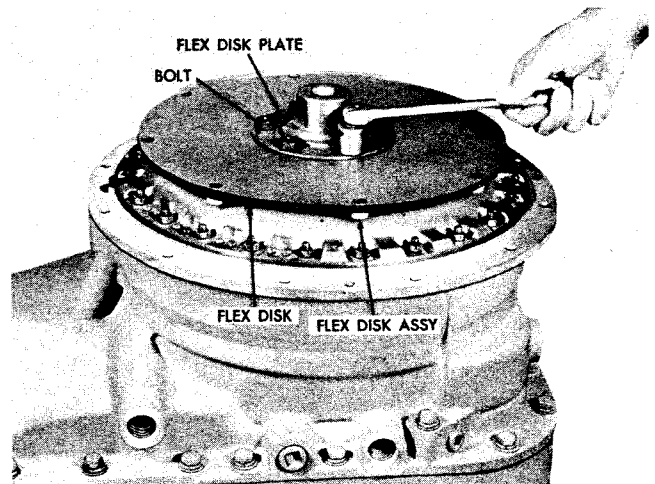

Fig. V-9. Removing (or installing) flex disk assembly
(1) Position the transmission on the back side. Do not allow the transmission to rest on the rear output shaft.
(2) Remove six bolts, a plate, three flex disks and one flex disk assembly (fig. V-9).